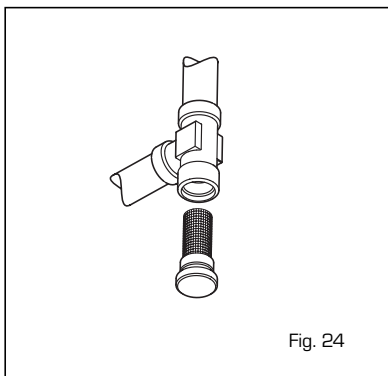

Fig. 24
4.5.5 Pulizia "Aqua Guard Filter System" (fig. 24)